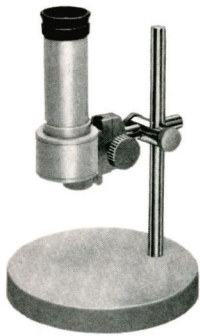

Fig. 1
- Fig. 1 Single Microscope—9020 (30X)